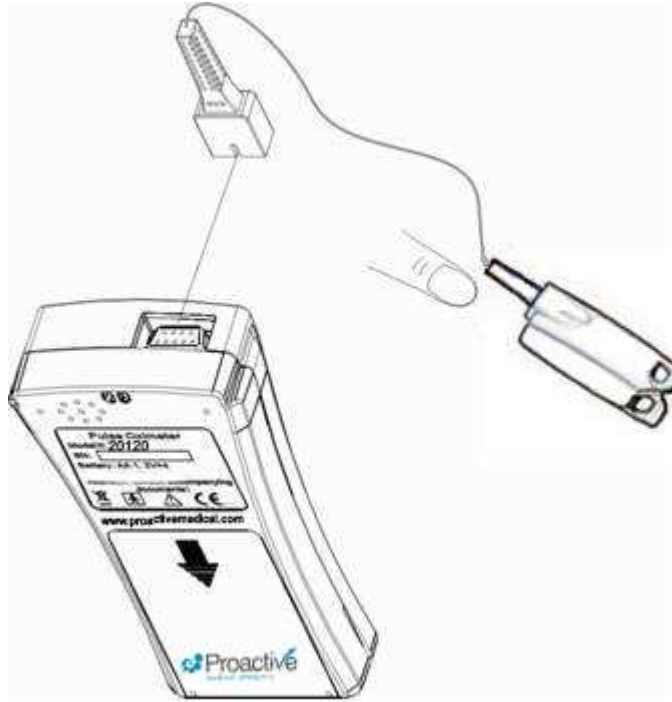

图 2: Installation and operation of probe
1. Refer to Figure 2, connect the oximeter plug to pulse oximeter convex interface;